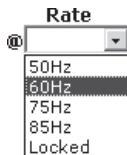

Figure 6-10 — Rate @ drop box
1. Click the Rate field. A drop down box appears (figure 6-10).